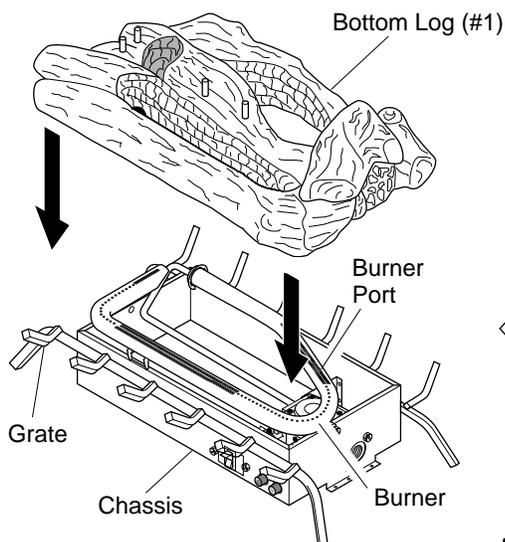
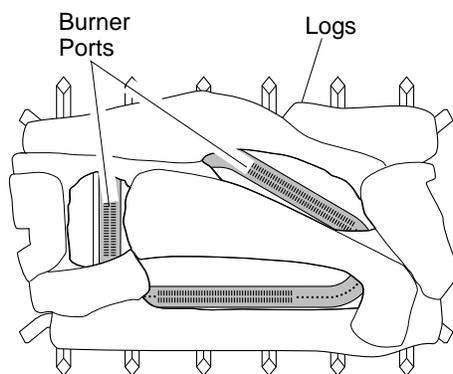

Figure 17 - Installing Bottom Log (#1)
Figure 18 - Installing Log set (Top View)
1. Place bottom log (#1) on grate to fit as illustrated in Figure 17. Make sure open areas of log set line up with burner ports (see Figure 18). Log will fit securely on chassis. **IMPORTANT:** Make sure log does not cover any burner ports.